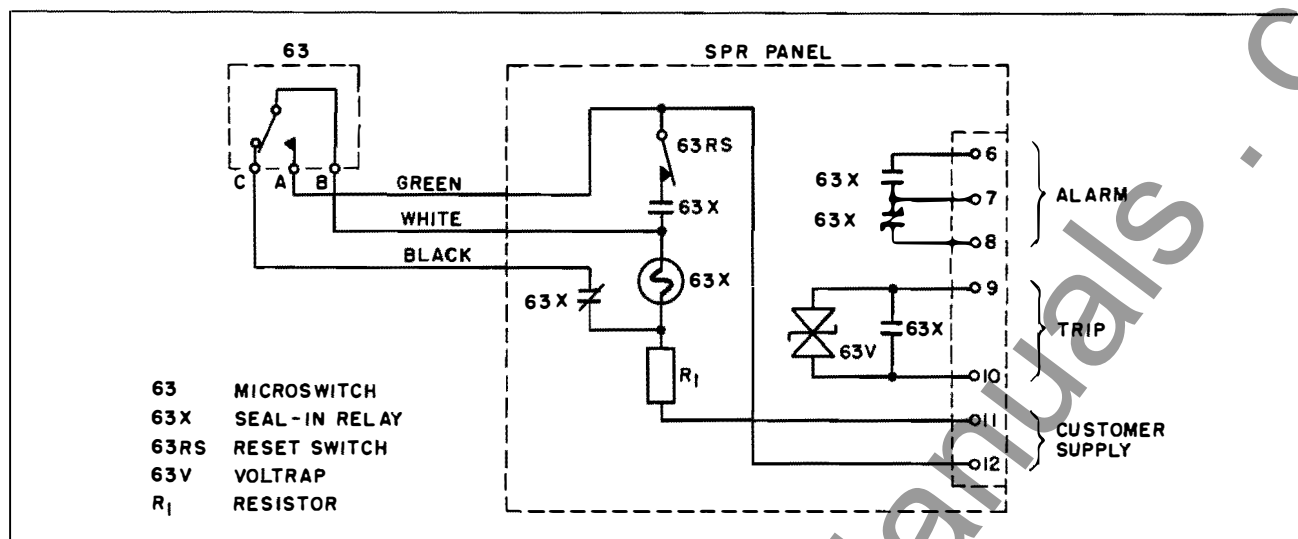

Fig. 2 Sudden Pressure Relay Schematic Wiring Diagram
Another possibility is that the Relay operation was caused by extraneous electrical or mechanical disturbances. These might be caused by an electrical storm, or might even be side effects of constantly changing transformer, station, and system practices. Whenever a cause of a false operation has been identified, changes have been made in the design or application of the Relay to prevent a recurrence from that cause. One example is the new Panel circuit in Figure 2. It offers protection against electrical flashover in the Relay circuit, the result of field experience which has shown that severe voltage surges do appear in alarm circuits.
7. The new Seal-in relay circuit (See Figure 2) protects against flashover of the Microswitch or Seal-in relay contacts due to severe electrical disturbances.
3. Connect a circuit tester across terminals 1 and 2 on terminal strip. (B and C on Fig. 2)
6. Using the recovery time recorded in (5) and the pressure recorded in (2) as coordinates on
A Seal-in relay, reset switch, and the associated circuitry is mounted on a panel in the transformer control cabinet. The Seal-in relay is a hermetically sealed, fast acting, high impedance relay with alarm contacts. It is energized by the Microswitch; its purpose is to close alarm and/or trip circuits and seal itself closed until manually reset with the reset switch. Refer to Table 1 for current ratings of the Seal-in relay contacts. Figure 2 shows a typical schematic wiring diagram of the Sudden Pressure Relay and its associated panel.
The present standard panel circuit (figure 2) includes a Voltrap across trip contacts 9-10 of the Seal-in relay. This Voltrap acts like a nonlinear resistance which will discharge induced voltages before they become high enough to flashover these trip contacts. Most users shield the long alarm and trip leads between transformer and station house; where shielding may be inadequate, the Voltrap provides backup protection. The Voltrap must be disconnected if trip circuit voltage is higher than 270 volts.